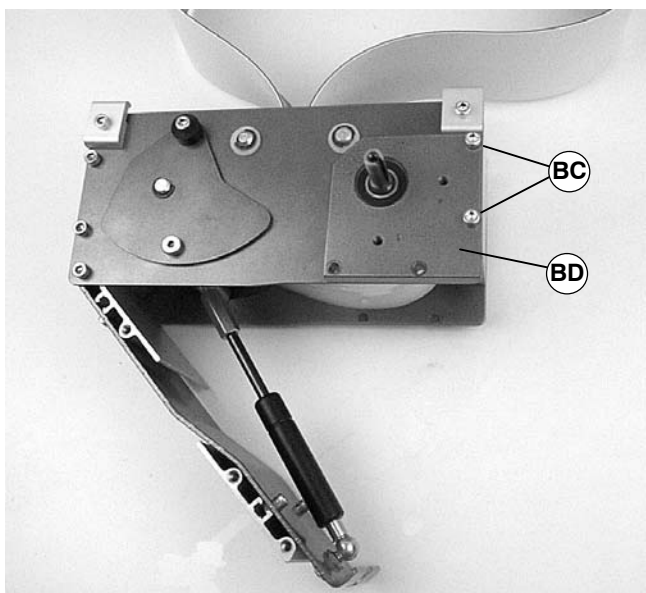
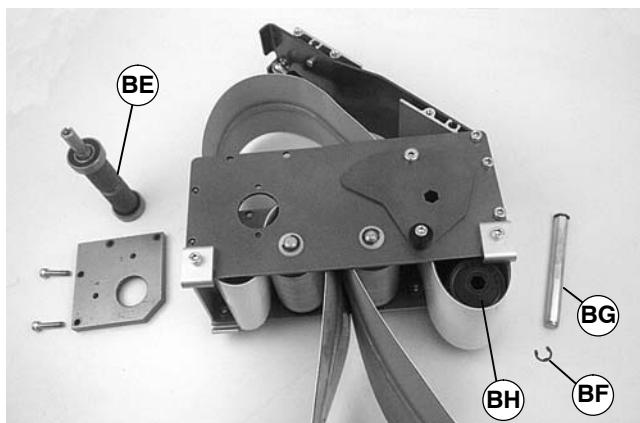
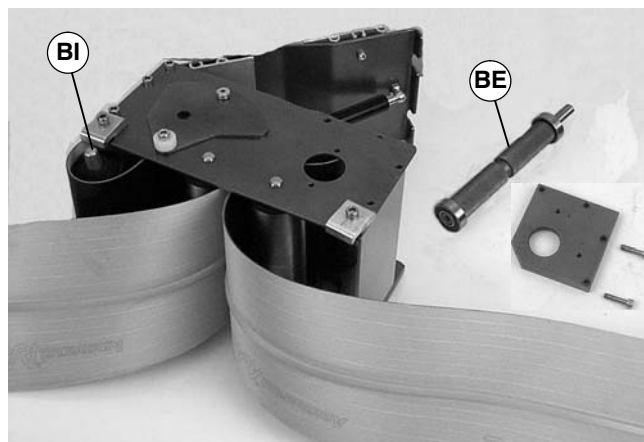

Figure 31
Figure 32
Figure 33
1. Remove two (2) screws (BC of Figure 31). Remove tension drive plate (BD).
2. Remove drive pulley [BE of Figure 32, for 2" (44 mm), 3" (70 mm) or 4" (95 mm) wide conveyor] or [BE of Figure 33, for 5" (127 mm) or wider conveyor].
- For 2" (44 mm), 3" (70 mm) or 4" (95 mm) wide conveyor, remove E-ring clip (BF of Figure 32). Remove pulley shaft (BG) and remove pulley (BH).
- For 5" (127 mm) or wider conveyor, depress both sides of spring-loaded shaft and remove pulley (BI of Figure 33).
3. Place grooved idler pulley (BH of Figure 32 or BI of Figure 33) into belt loop and replace in center drive
4. Place drive pulley (BE of Figure 32 or 33) into belt loop and install in center drive module. Refer to "Belt Removal from Center Drive Module" section and reverse steps 1 and 2 on page 12. Tighten screws (BC of Figure 31) to 80 in-lb (9 Nm).